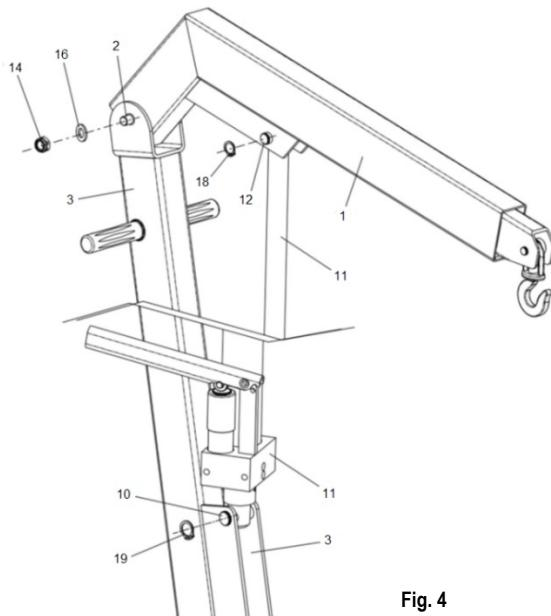

Fig. 4
3. Assemble the jib (1 – Fig. 4) with the frame (3 – Fig. 4) by means of the fixing pin (2 – Fig. 4), the nut (14 – Fig. 4) and the washer (16 – Fig. 4).
Assemble the cylinder unit (11 – Fig. 4) with the frame (3 – Fig. 4) by means of the fixing pin (10 – Fig. 4) and the retaining ring (19 – Fig. 4).
Assemble the cylinder unit (11 – Fig. 4) with the jib (1 – Fig. 4) by means fo the fixing pin (12 – Fig. 4) and the retaining ring (18 – Fig. 4).